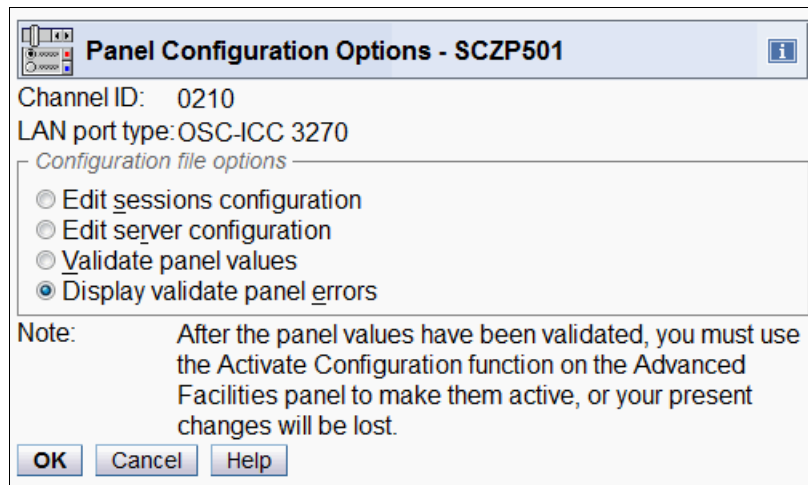
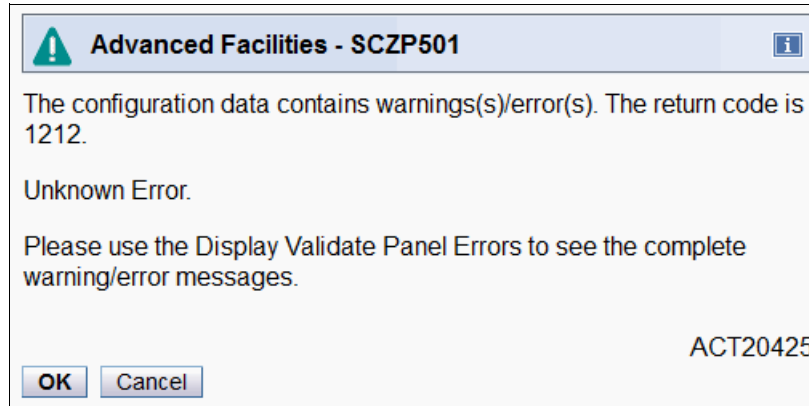

Figure 14-95 OSA Advanced Facilities: Display validate panel errors
Figure 14-96 OSA Advanced Facilities: Panel Configuration Options error found
12. You are returned to the Panel Configuration Options panel (Figure 14-95). Now you can validate. Select **Validate panel values** and click **OK**.
If an error is found, a window similar to Figure 14-96 on page 702 opens. You can confirm the error by selecting **Display validate panel errors** on Panel Configuration Options (Figure 14-95). Correct the error, and again select **Validate panel values** to see that the error is corrected.